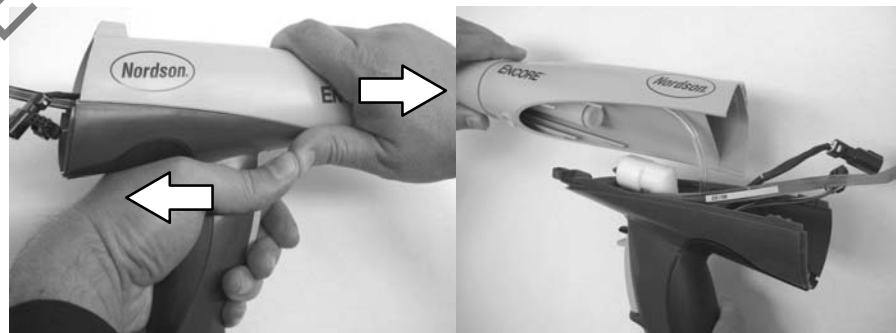

Figure 4 Separating Handle and Gun Body
14. See Figure 4. Grasp the handle in one hand and the gun body in the other. Press the thumbs of each hand together while pulling in opposite directions to separate the gun body from the handle.